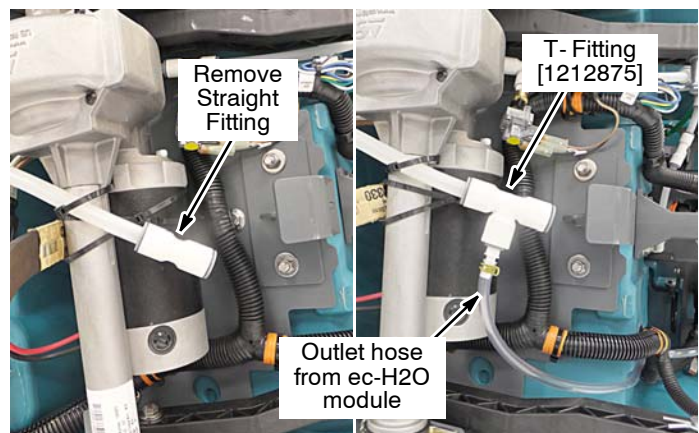

Fig. 35
- Remove the straight fitting from scrub head outlet hose and install T-fitting. Then connect the ec-H2O module outlet hose to the T-fitting as shown (Figure 35).